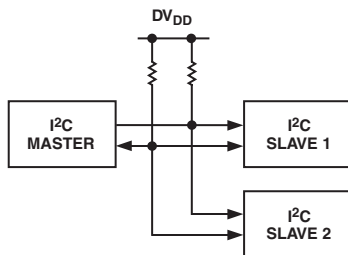

Figure 34. Typical I2C System
- An I2C master can communicate with multiple slave devices. Because each slave device has a unique 7-bit address, single master/slave relationships can exist at all times even in a multislave environment (Figure 34).